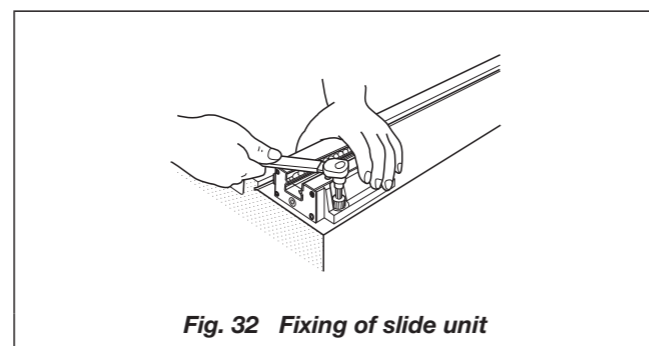

Fig. 32 Fixing of slide unit
- Correctly fit the reference mounting surfaces of Linear Way I and II slide units to the mating reference mounting surfaces of the table and fix the slide units as shown in the figure. (See Fig. 32.)